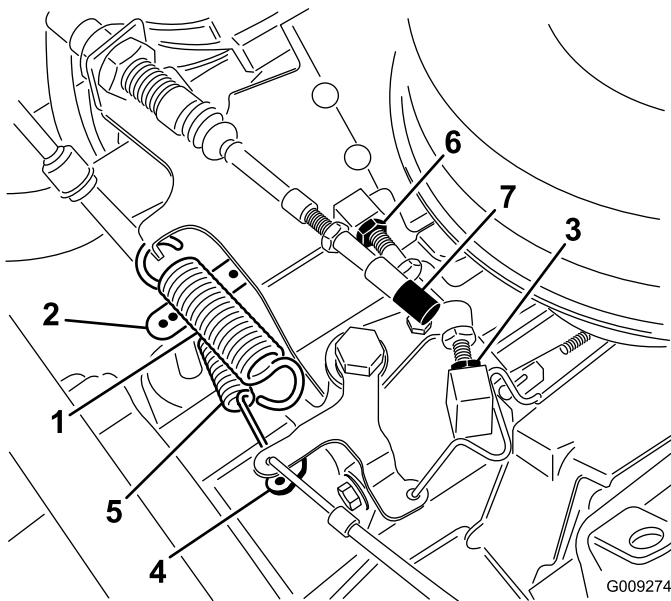

Figure 63
2. With the return spring installed, hold the engine governor arm toward the operator's side of the machine and adjust the low idle stop to obtain a 0.25 to 1.25 mm (0.01 to 0.05 inch) gap between the outside diameter of the hole in the throttle lever and the inside of the governor spring hook (Figure 63).